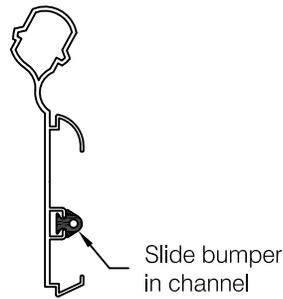

fig 4
- Step 6:** Cut flexible cushion short enough to comfortably fit between molded accessories. Slide cushion into receptacle on aluminum retainer, see **fig 4**.